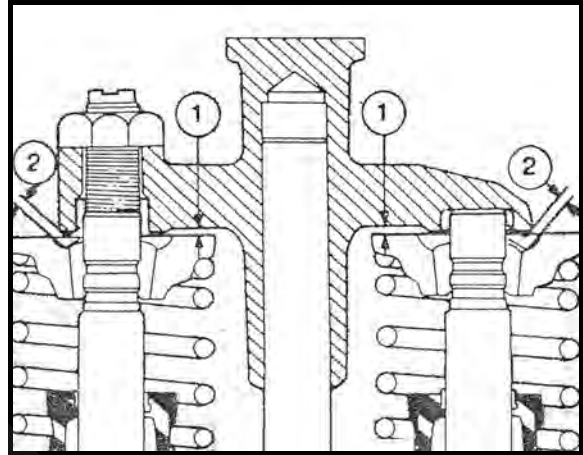

Fig. 2-20 Valve Spring retainer to crosshead clearance
3. Check the clearance between the crosshead and the valve spring retainer (1-2, Fig.2-20), with a wire gauge. There should be a minimum of 0.025 inch [0.64 mm] clearance.